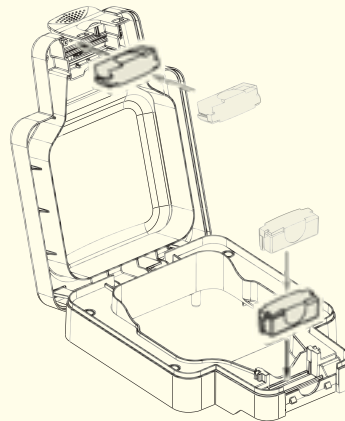

Figure 8
2. Carefully remove the two cable seal capsules with a flat bladed screwdriver and discard. Refer to Figure 8.